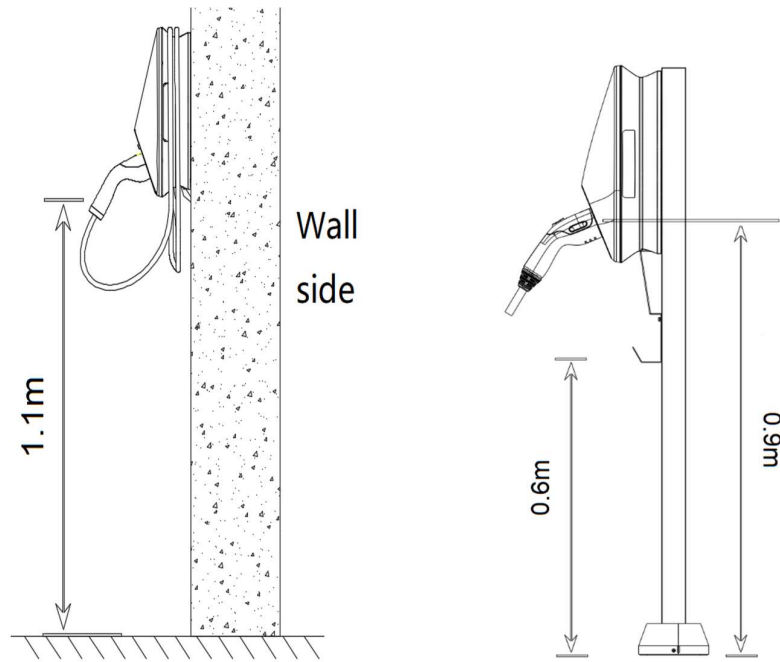

Figure A-9 Wall mounting height Figure A-10 Pole mounting height
1. Please confirm the installation location and mark it on the wall. It is suggested that the top height of charging station should be about 1.1 meters from the ground, as shown in Figure A-9 and the height if the pole mounting is as show in in Figure A-10.